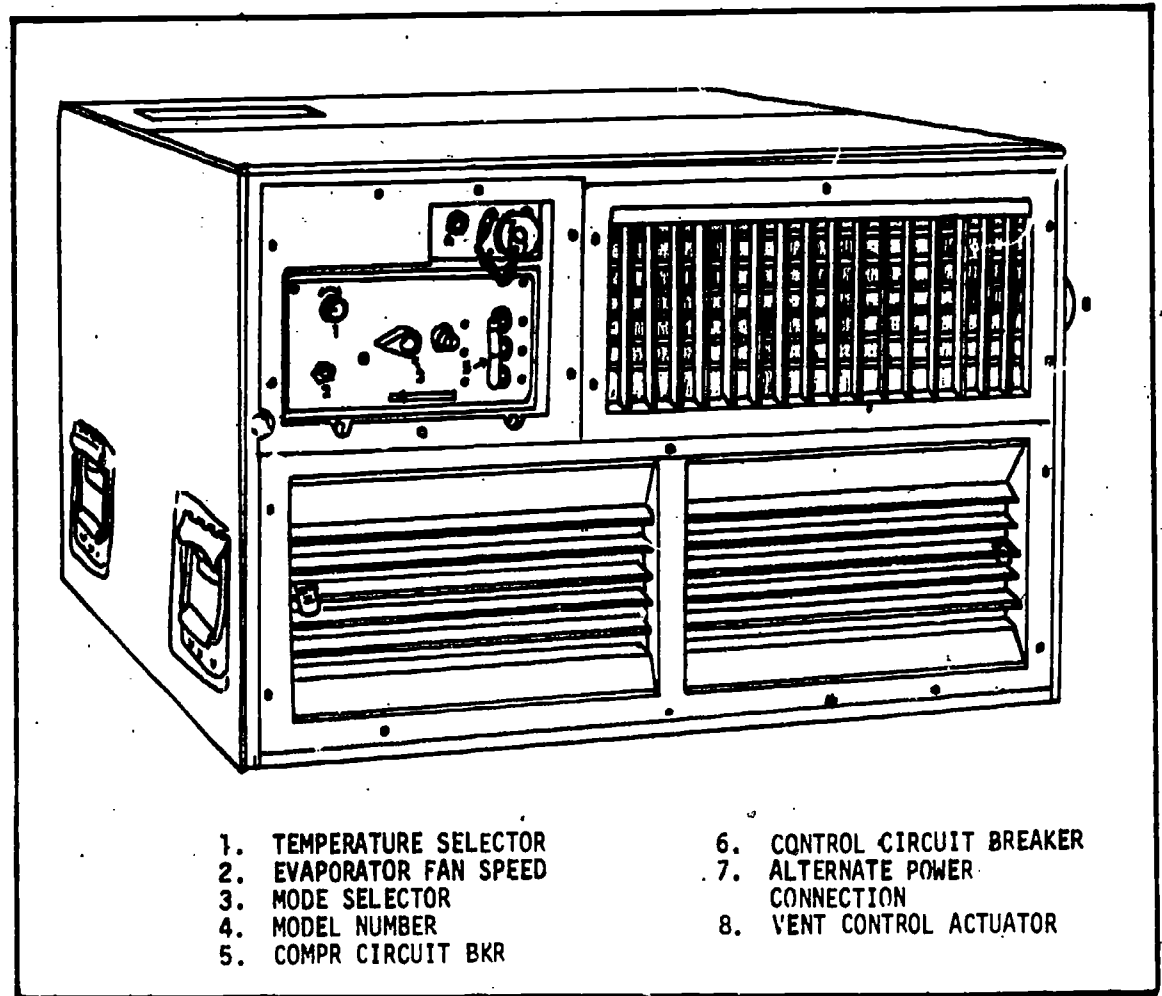

Fig 4-30. Horizontal air conditioner, front view.
- (3) **Operation.** The following list of steps is a brief explanation of things to do to put the horizontal model air conditioners into operation and to shut them down. Refer to figures 4-30 and 4-31 for location of controls.